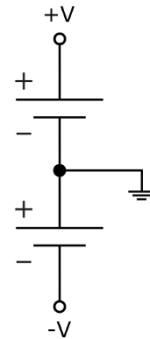

Figure 14-6: Some circuits require positive and negative power supplies.
Some circuits (for instance, some op-amp circuits, which are discussed in Chapter 11) require both positive and negative DC power supplies. You'll often see the positive supply represented by an open circle labeled +V and the negative supply represented by an open circle labeled -V. If the voltages are not specified, they may be +5 VDC and -5 VDC. Figure 14-6 shows how these power supply connection points are really implemented.
- ✓ **Single ground symbol:** The schematic shows all the ground connections connected to a single point. It doesn't often show the power source or sources (for instance, the battery), but you should assume that ground connects to the positive or negative DC power sources (refer to Figure 14-6).